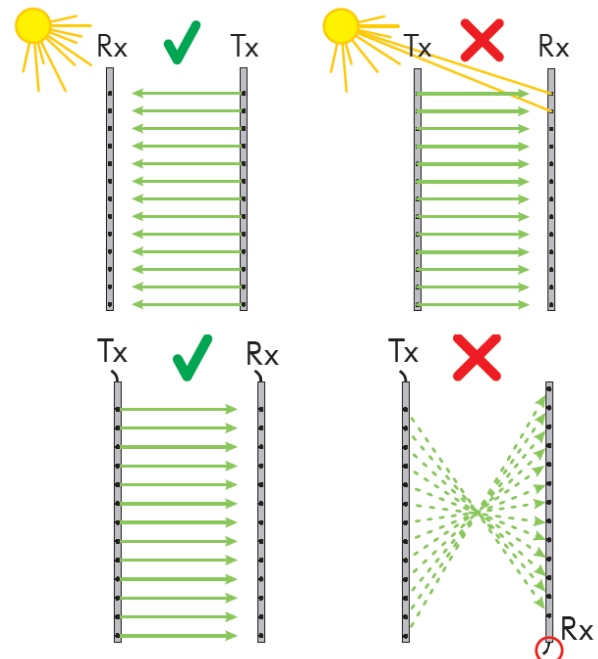

Figure 3: Installation hints
- Although the cegard/Pro (CabSafe 2D) system is insensitive to direct sunlight, avoid unnecessary exposure when possible, especially the receiver unit (Figure 3).
- Make sure to orient the connection plugs for both the emitter and receiver at the same end (Figure 3).